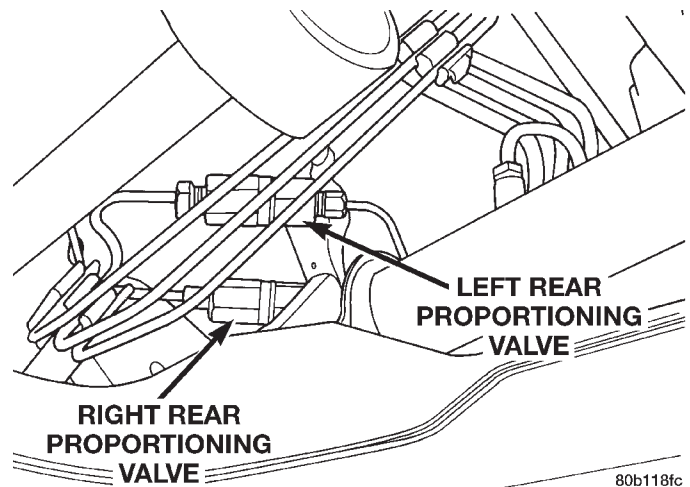

Fig. 18 Non-ABS Brake Proportioning Valve Location
One proportioning valve controls the right rear brake, and the other proportioning valve controls the left rear brake (Fig. 18). Therefore, a road test to determine which rear brake slides first is essential. Once the wheel which slides first is determined, use the following procedure to diagnose the proportioning valve.
- (1) Road test the vehicle. Determine which rear wheel exhibits premature rear wheel skid, then refer to the figure (Fig. 18) to determine which proportioning valve needs to be tested.
(2) Remove hydraulic brake line (Fig. 18) from proportioning valve controlling the rear wheel of the vehicle which has premature wheel skid.
(3) Remove the proportioning valve from the rear brake chassis tube.